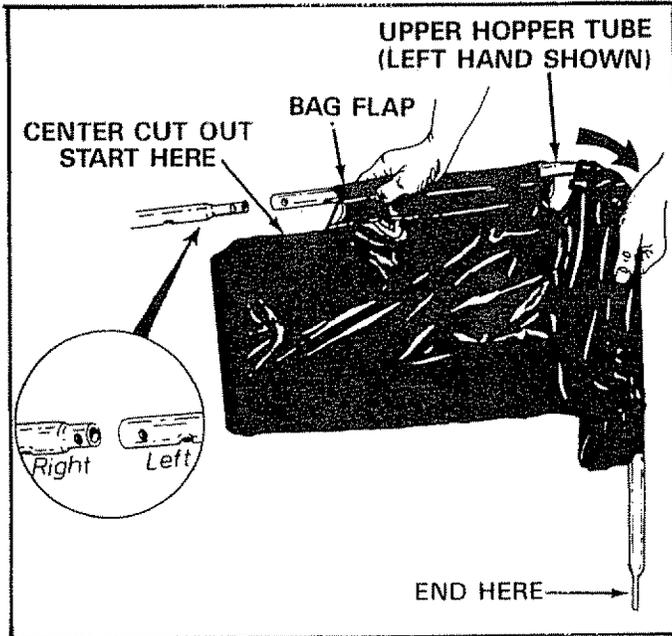

FIGURE 10
1. Insert the left hand upper hopper tube through the hopper bag stitched flaps, **starting at the center cut out** in the top of the hopper bag. See figures 10, 11 and 12. Repeat for the right hand upper hopper tube.